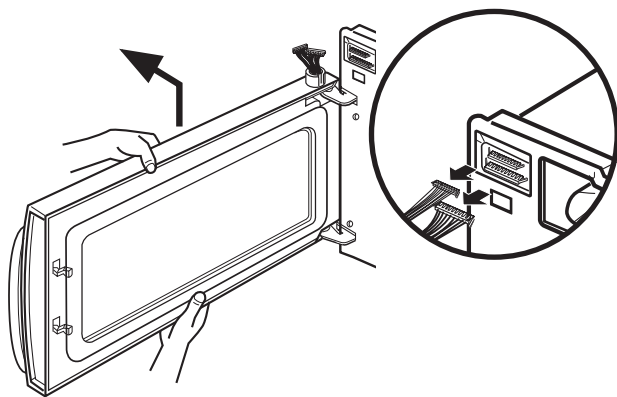

Figure 15
F. REMOVING DOOR (Figure 15)
- (1) Remove the vent grille by two screws securing it to the outcase loosening.
- (2) Disconnect two leadwires.
- (3) Lift up and draw the door.